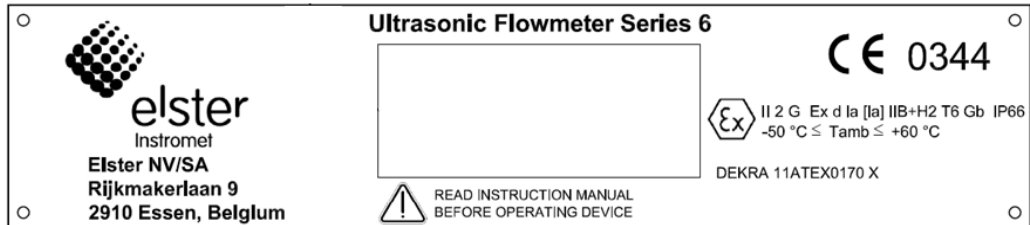
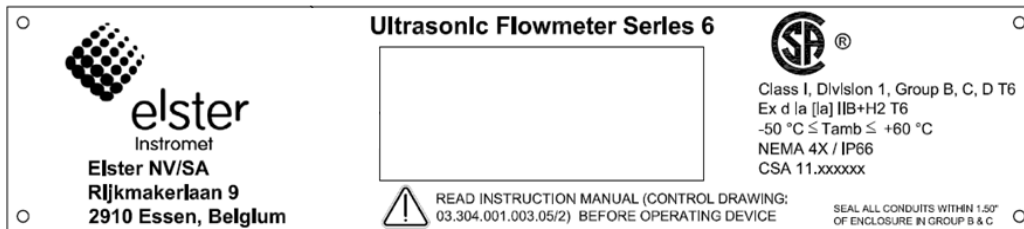

Figure 10: example ATEX label
Figure 13: example CSA label
- Refer to the type plate on the SPU for the applicable hazardous area approval. This could be according to ATEX, IECEx, FM or CSA, see Figure 10 to Figure 13.